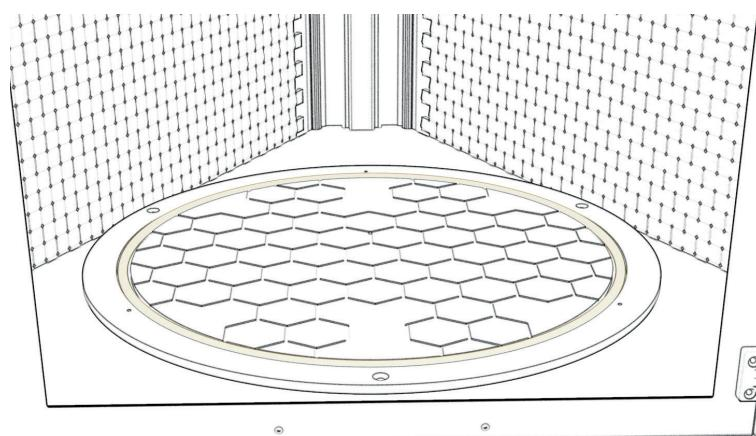

Fig. 8.12b - Placing the silicone gasket
2. Place the silicone gasket in its slot (fig 8.12b)